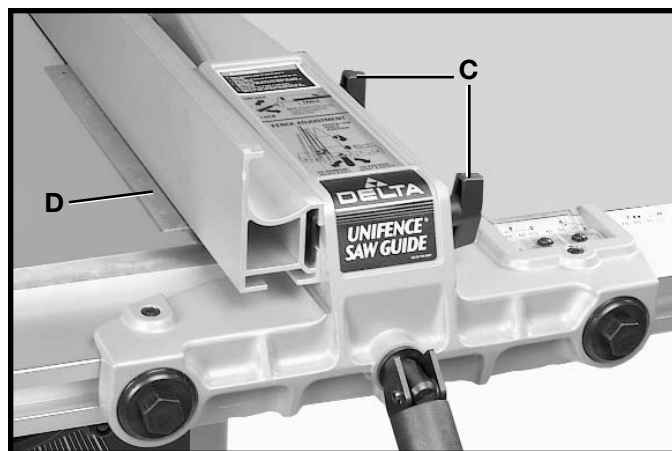

Fig. 76
2. For most cutting operations, the bottom of the fence should be positioned slightly above the table surface. Loosen two lock knobs (C) Fig. 76, and place a thin object such as a ruler (D) between the table and fence, as shown. Then tighten two lock knobs (C).